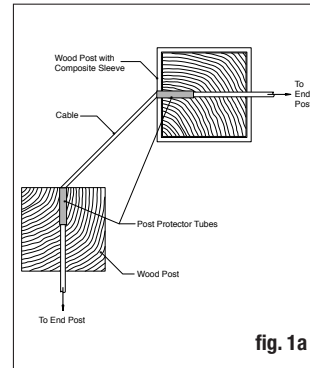
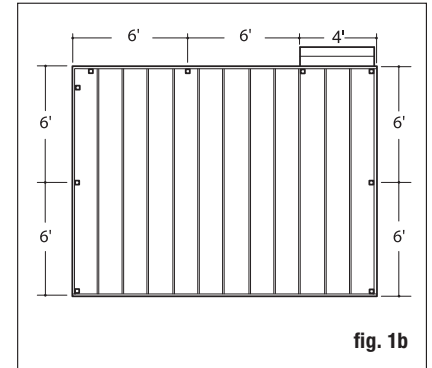

fig. 1a
fig. 1b
**Step 1:** Determine the number of railing posts needed for your deck. Post spacing is 6' or 8' on-center. **Corner applications** (fig. 1a): When taking cable railing through a corner, do not bend the cable past 45° at any time. When turning 90°, a 2-step turn using a double corner post configuration is required. Example: A 12'x16' deck attached to a building with a 4' access opening on one side, and one 90° corner, will require a total of nine posts (fig. 1b). Or you can stop your run and start a new one.